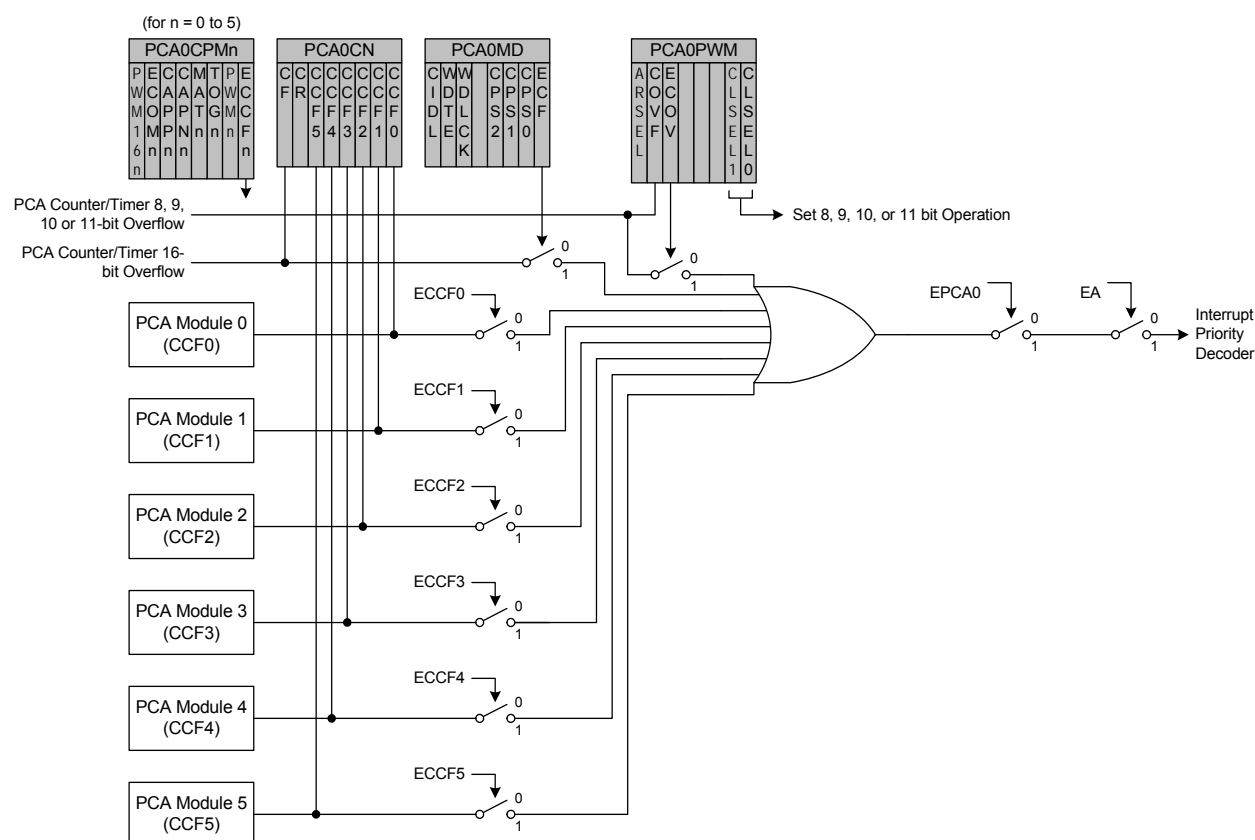

Figure 28.3. PCA Interrupt Block Diagram
Figure 28.3 shows a diagram of the PCA interrupt tree. There are eight independent event flags that can be used to generate a PCA0 interrupt. They are: the main PCA counter overflow flag (CF), which is set upon a 16-bit overflow of the PCA0 counter, an intermediate overflow flag (COVF), which can be set on an overflow from the 8th, 9th, 10th, or 11th bit of the PCA0 counter, and the individual flags for each PCA channel (CCF0, CCF1, CCF2, CCF3, CCF4, and CCF5), which are set according to the operation mode of that module. These event flags are always set when the trigger condition occurs. Each of these flags can be individually selected to generate a PCA0 interrupt, using the corresponding interrupt enable flag (ECF for CF, ECOV for COVF, and ECCFn for each CCFn). PCA0 interrupts must be globally enabled before any individual interrupt sources are recognized by the processor. PCA0 interrupts are globally enabled by setting the EA bit and the EPCA0 bit to logic 1.